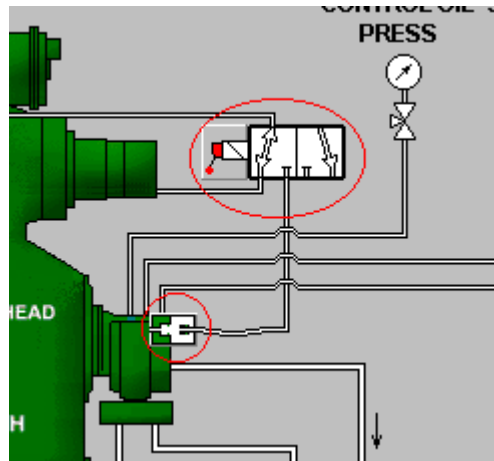

Fig. 5.3
- set manual two – position distribution valve for emergency oil distribution block supply (by mouse clicking on field of valve lever) Fig. 5.3
- connect emergency quick connecting valve with connecting hose (by mouse clicking on field of oil distribution box connecting hose Fig.5.3)